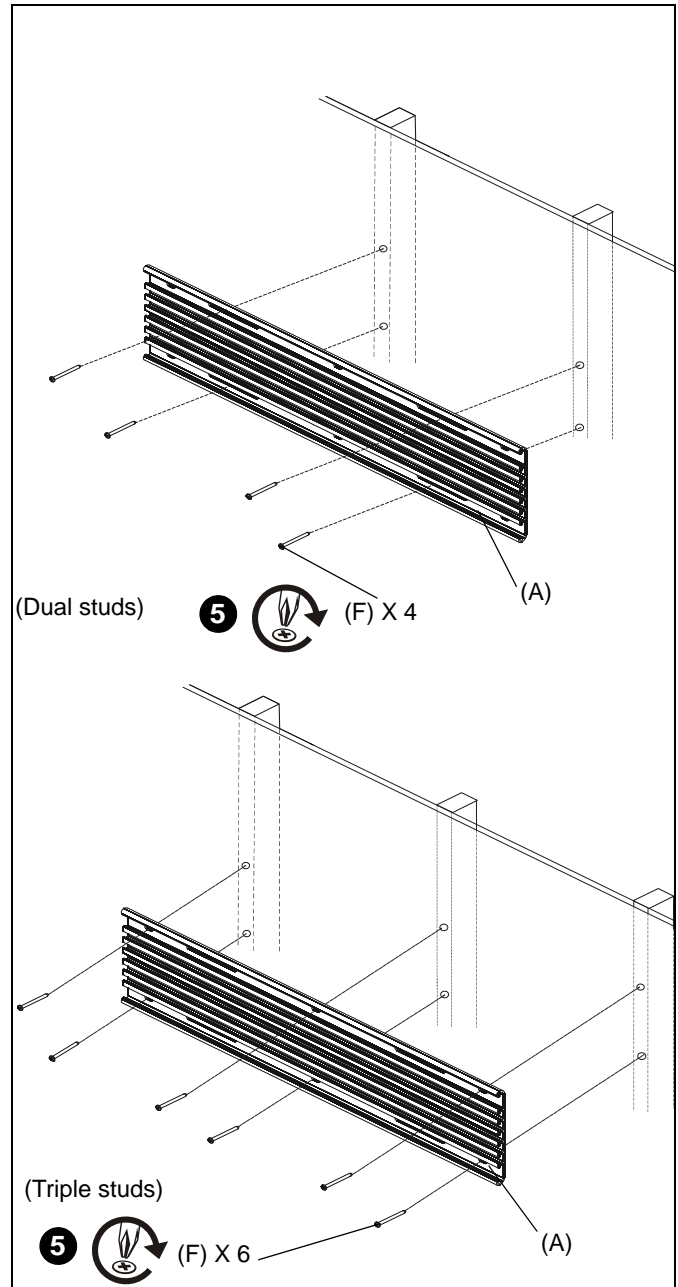

Figure 9
6. Install four (two studs) or six (three studs) #12 x 2 1/2" round pan wood screws (F) through wall accessory holes into the holes drilled in Step 4. (See Figure 9)